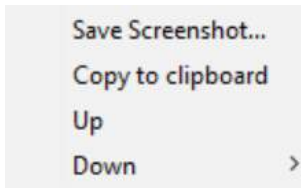

Figure 28: Screenshot Menu.
2. To save an image of a different section of the display, right-click on an area which is not a table, graph or any other infographic. When a suitable area is clicked, a menu bar will appear (Figure 28) and some of the display will be greyed out. To save or copy the highlighted section, select **Save Screenshot...** or **Copy to Clipboard**. To select a different portion of the display, use the **Up** and **Down** options.